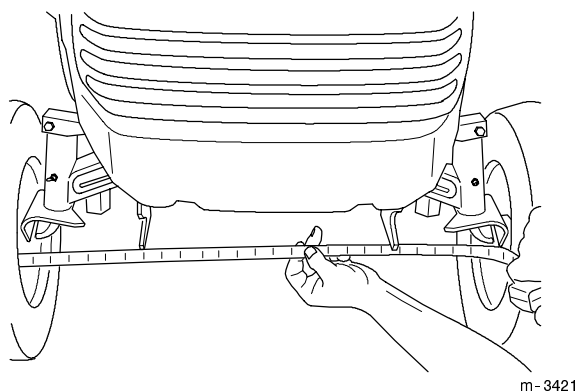

Figure 43
steering develop, adjustment may be required. Check the toe-in after every 100 operating hours or once a year, whichever occurs first (Fig. 43).
4. Measure the distance between both of the front tires at spindle level (at the front and rear of the wheels) (Fig. 43).